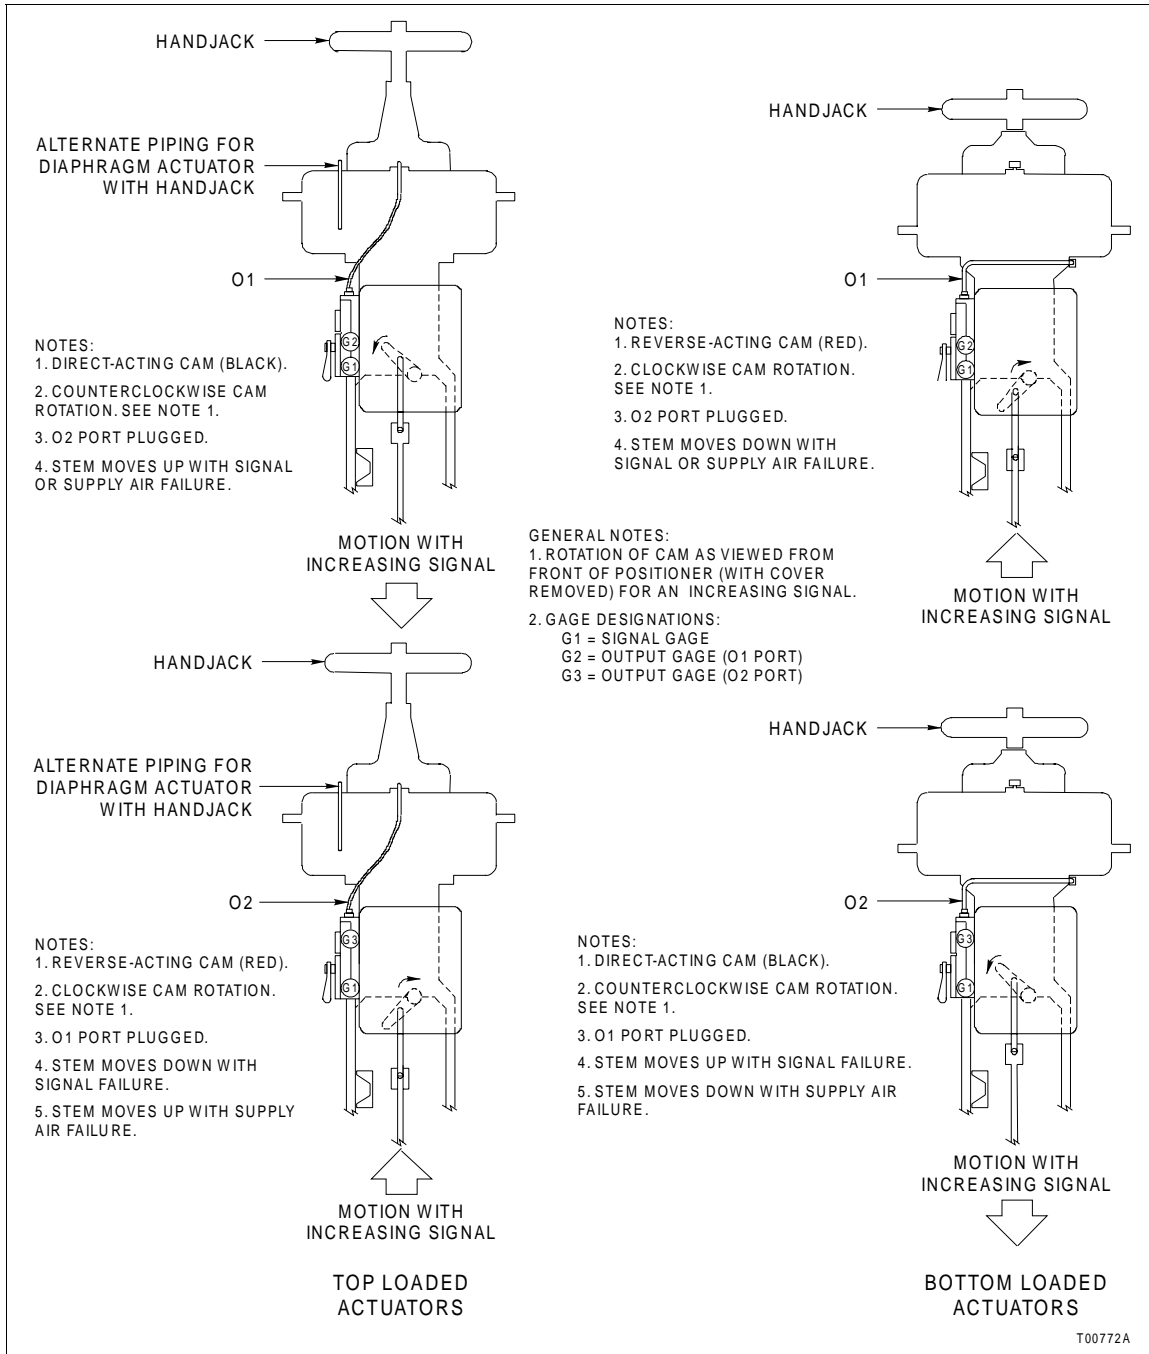
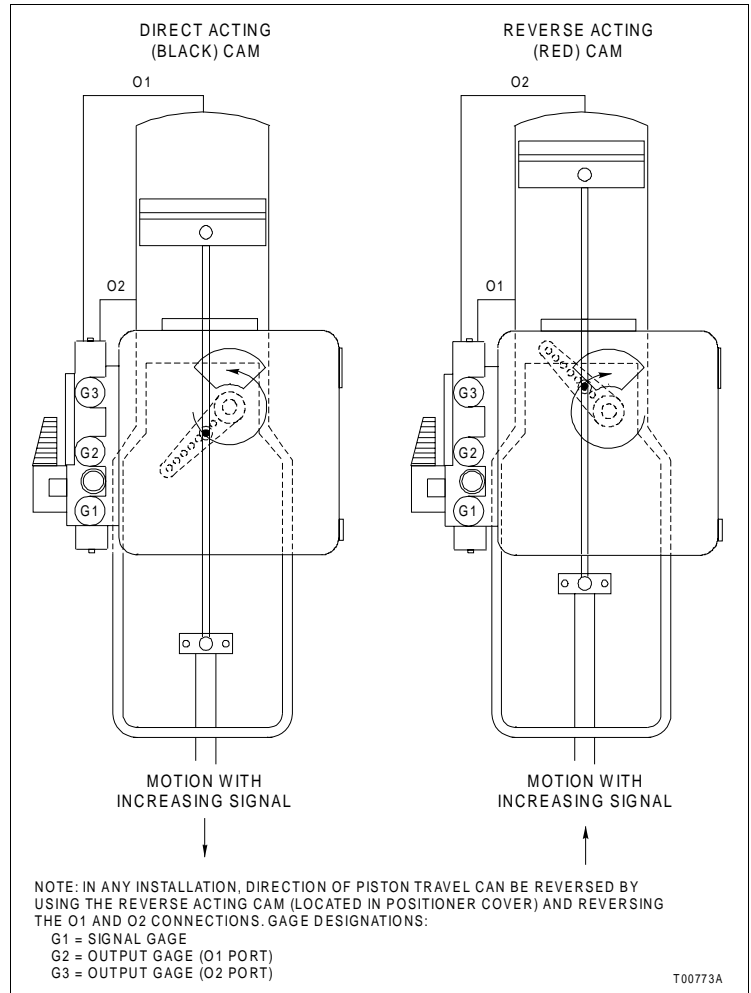

Figure 3-8. Tubing Examples of Single-Acting Actuators
Figure 3-9. Tubing Example of a Double-Acting Actuator
2. Connect the output ports 01 and 02 as required to provide the desired direction of rotation. Figure 3-8 shows single-acting tubing examples and Figure 3-9 shows a double-acting tubing example.
NOTE: The tubing arrangements shown in Figures 3-8 and 3-9 are general examples and may not reflect exactly the arrangement required for the application.